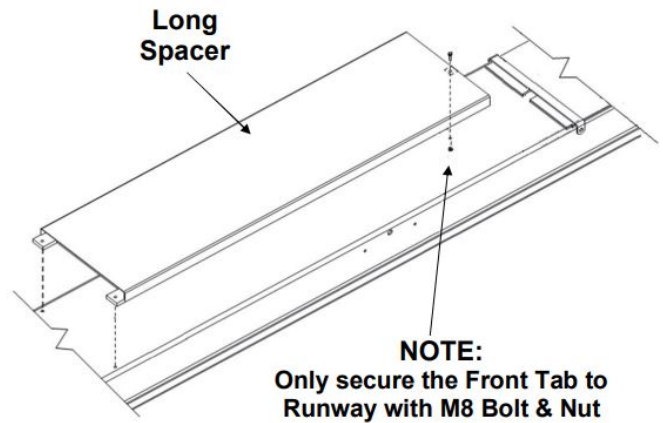

Fig. 4
5. Center and square the Long Spacer (#5) on Runway. Align the Tab Holes, bolting only the Front Tab to the Runway, secure using M8 Bolt & Nut – Fig. 4.